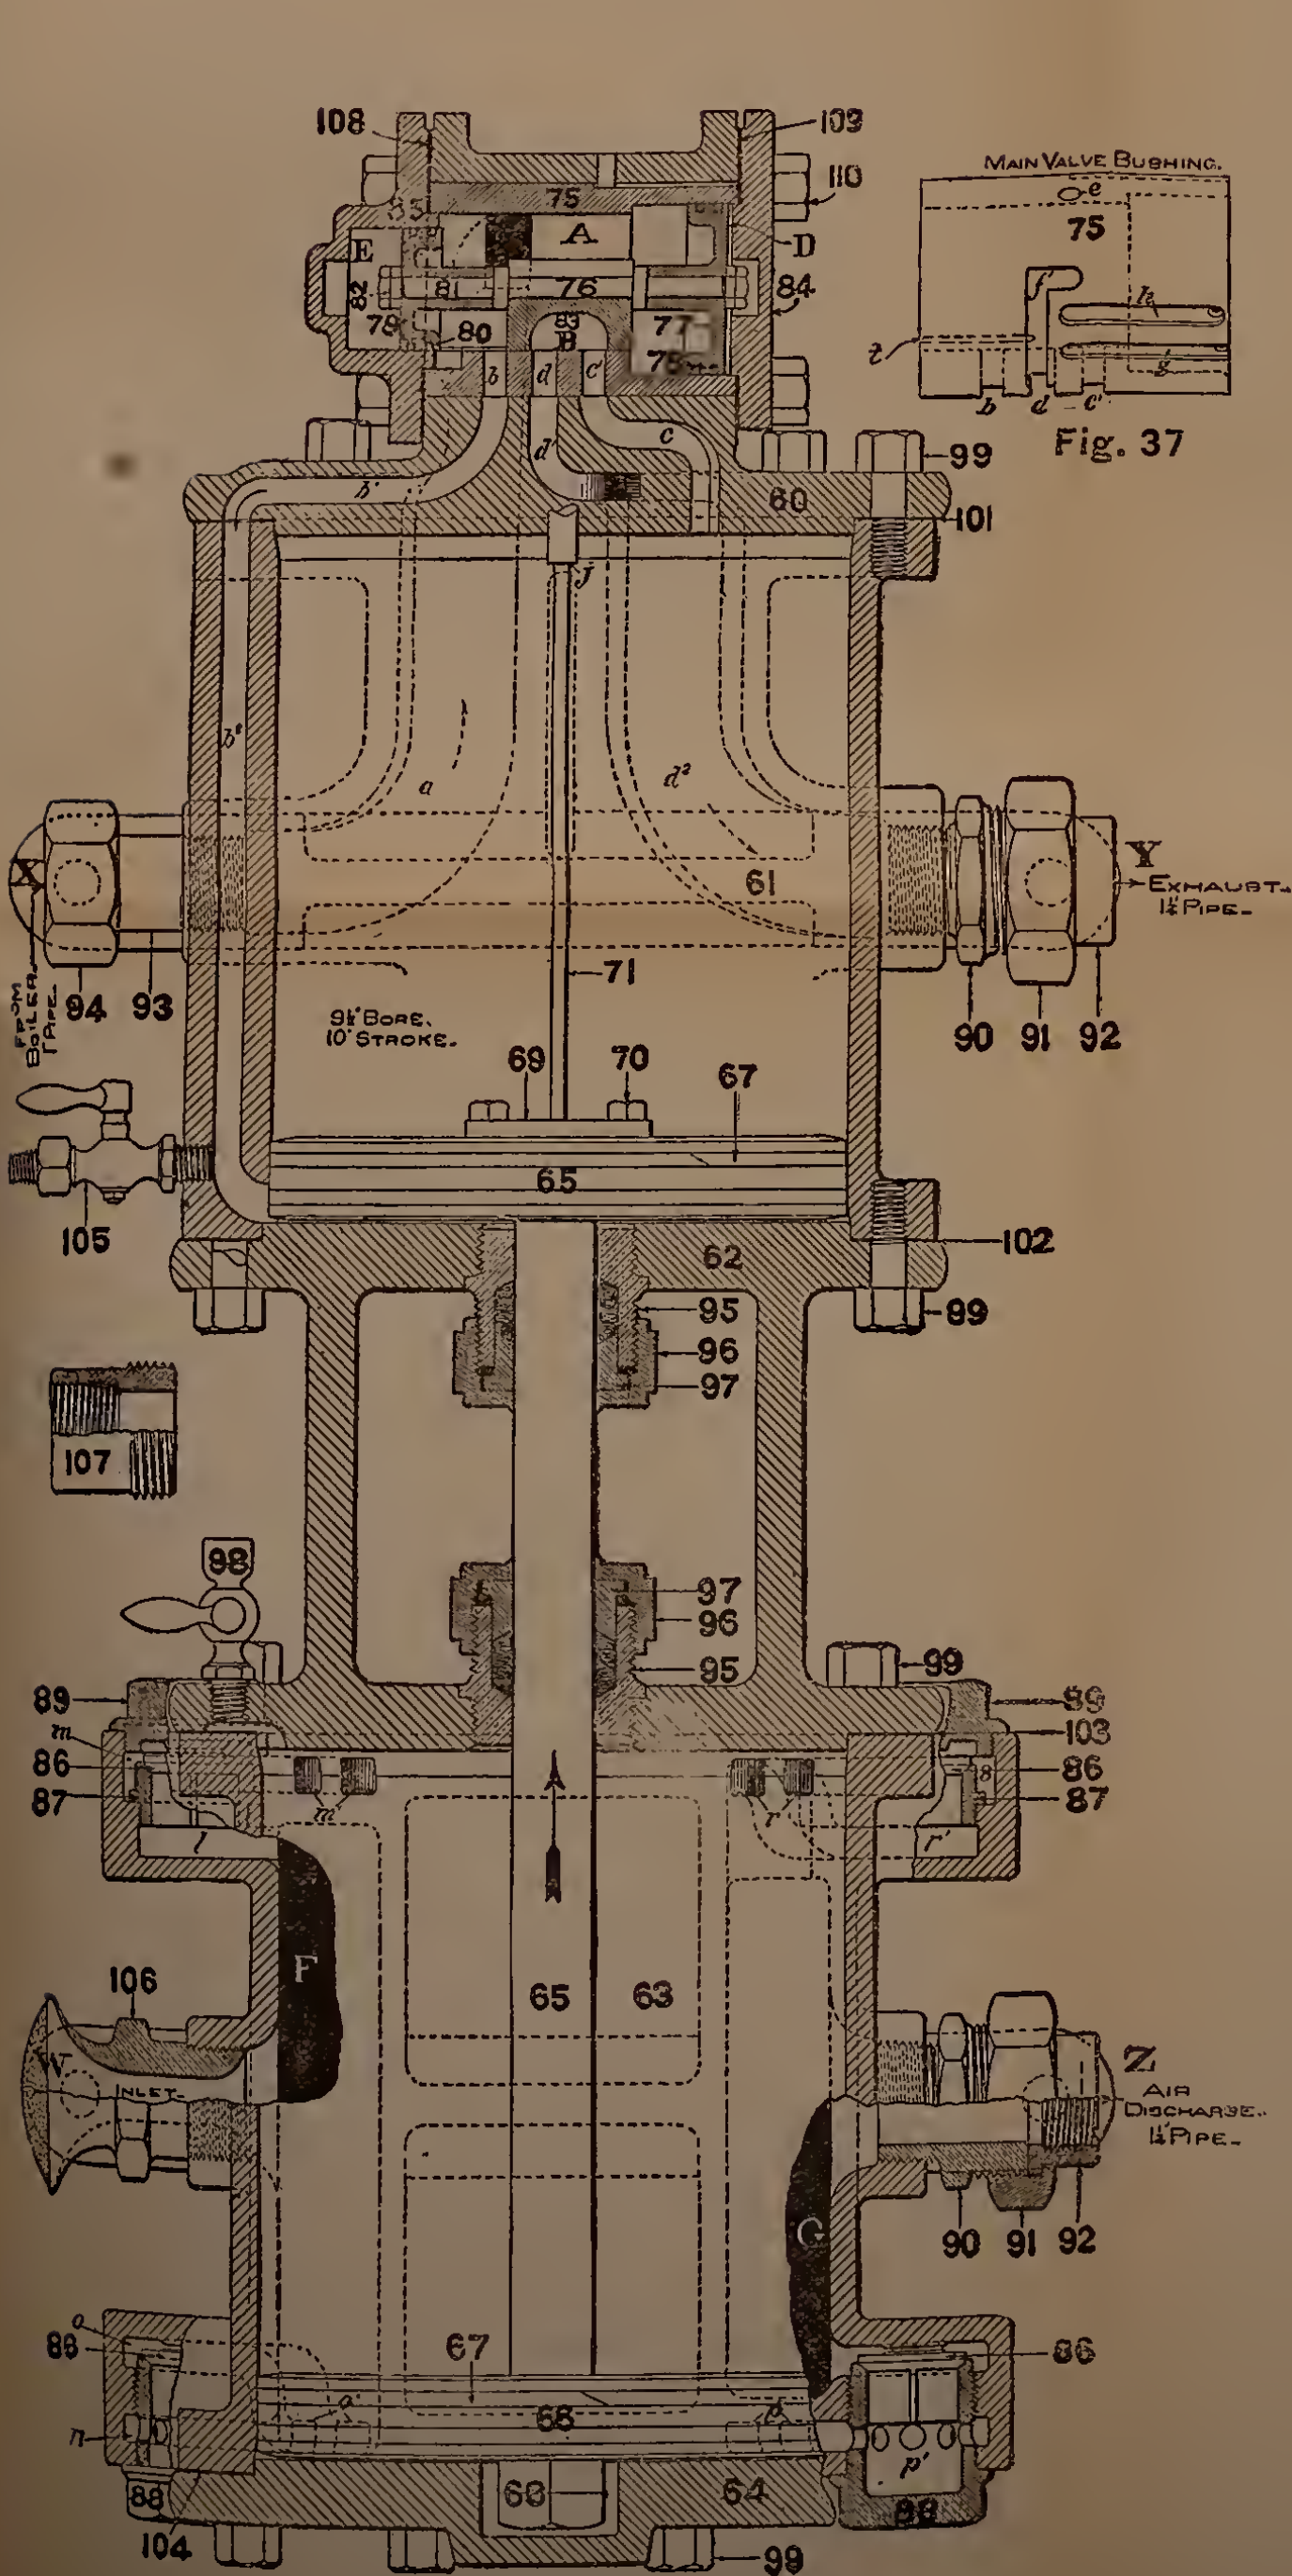
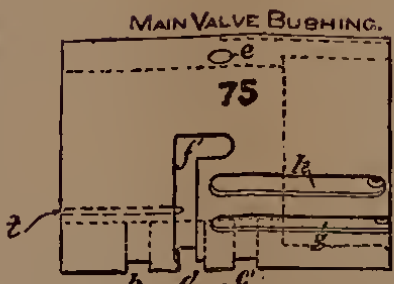

Fig. 35
Fig. 37
Q. What is Fig. 37 (Plate VII) ?
Q. What are ports b , d , and c' (Fig. 37, Plate VII) ?
In Fig. 35 (Plate VII) we see that b leads to the bottom of the steam cylinder, c' to the top, and d leads to the exhaust pipe at Y .
Q. Of what use is port t (Fig. 37, Plate VII) ?
A. Steam coming from the boiler through the pump governor enters the pump at X , thence passes through ports a , a' and a^2 (Figs. 35 and 36, Plate VII), into chamber A between the main valve pistons. The area of piston 77 being so much greater than that of 79, the steam moves these pistons to the right, carrying the slide valve 83 (Figs. 35 and 36) with them to the position shown
in Fig. 35. Steam in chamber *A* is now free to pass through ports *b*, *b'* and *b²* underneath the main piston 65.
A. The duty of this valve is to admit and exhaust steam from chamber *D* (Fig. 35) between the piston 77 and head 84, and, as now shown, it exhausts steam from cavity *D* through ports *h* and *h'* (Figs. 37 and 36), port *H* of the reversing slide valve, and through ports *f*, *f'*, *d*, *d'*, *d²*, and out at *Y*.
A. Those marked 86 at the left of Fig. 35.
A. Open the cock 98 (Fig. 35, Plate VII) and air will issue thence constantly if the dirt on the seat of the valve allows main reservoir pressure to feed back into the cylinder.
A. The port *g* (Fig. 37, Plate VII) did not extend quite far enough, and the wear of piston 77 (Fig. 35, Plate VII) would sometimes allow it to travel far enough to close port *g* entirely, and the pump could not be reversed.